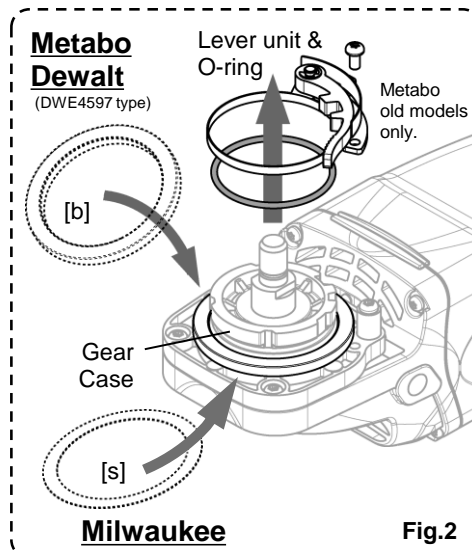

Fig.2
2. Set [b] Mount Ring (Metabo and Dewalt DWE4597 type only) / [s] Mount sheet (Milwaukee only) on the Gear Case. (Fig.2)